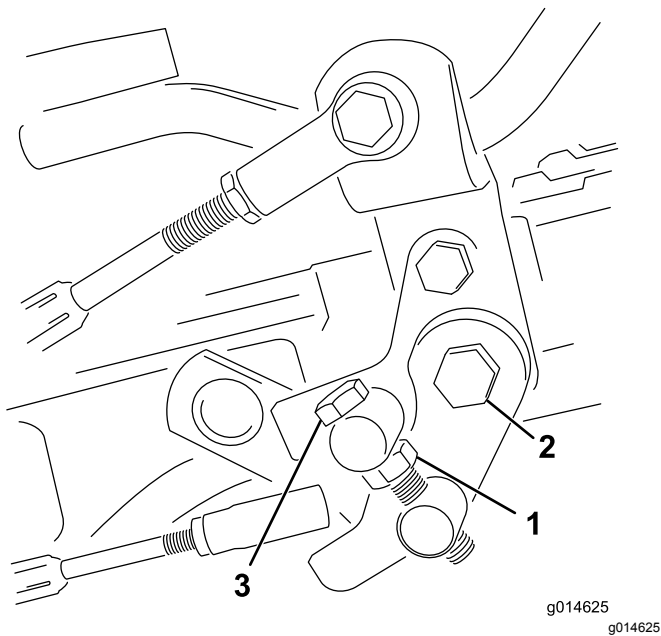

Figure 49
1. Loosen the jam nut on the trunion bolt (Figure 49).
4. Tighten the jam nut on the trunnion bolt and the nut on the pedal pivot to lock the adjustment (Figure 49). Check the adjustment and adjust as required.